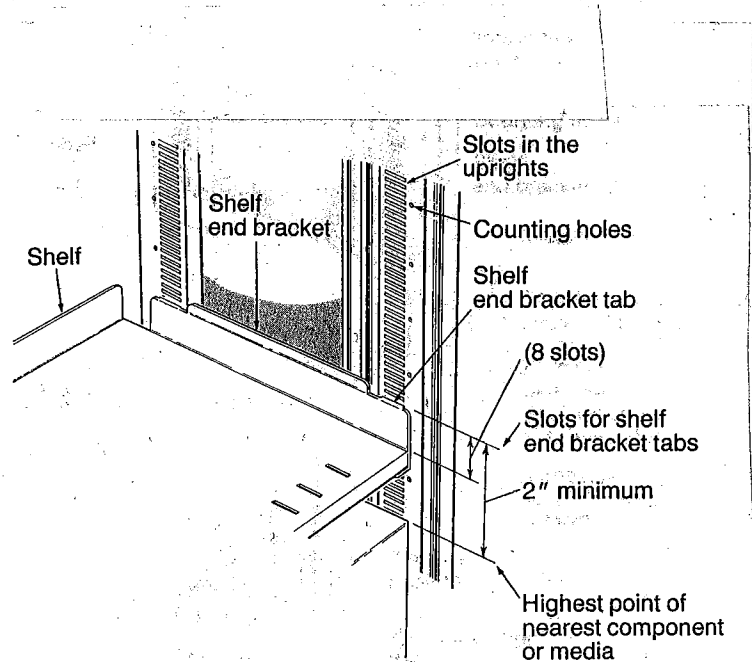

Figure 1. Shelf locating
1. A fixed shelf must be located a specified distance above the nearest component or any media stored below it (see Figure 1).